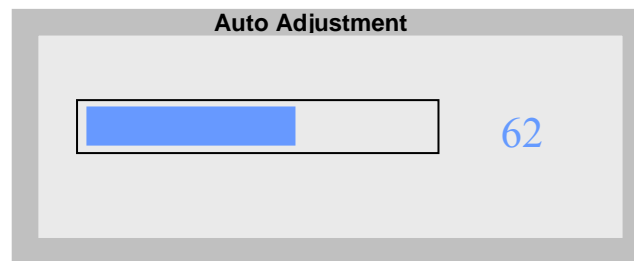

Figure 22: Auto Adjustment Progress Bar
**NOTE:** Expect the display to darken while a progress bar appears, see Figure 22. The process will take approximately 15 seconds.